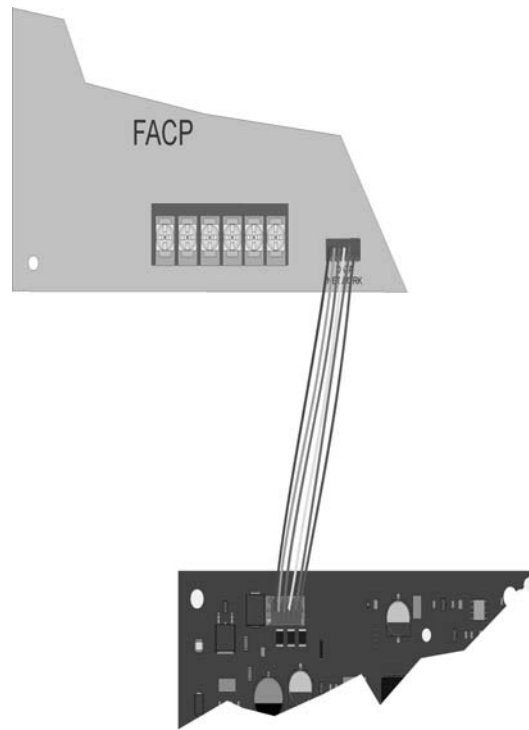

Figure 5-6 Panel to SK-NIC connection
2. Use the 6-pin cable included with SK-NIC to connect the IFP-2100/ECS to the SK-NIC. Connect the SK-NIC to the pin connector on the control panel labeled Data Network. See Figure 5-6.